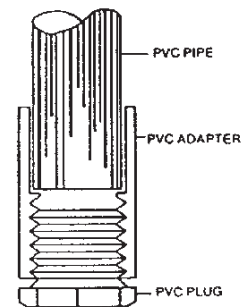
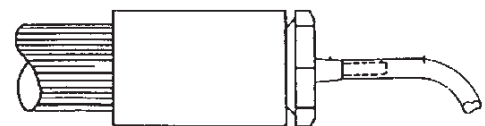

Fig. 17
Fig. 18
- At one end of the system, screw the PVC plug into the adapter and hand tighten (see Fig. 17). At the other end, screw the PVC plug with the bleed-off fitting into the adapter and hand tighten (see Fig. 18). The plug with the bleed-off fitting should be installed in one end near a drain.